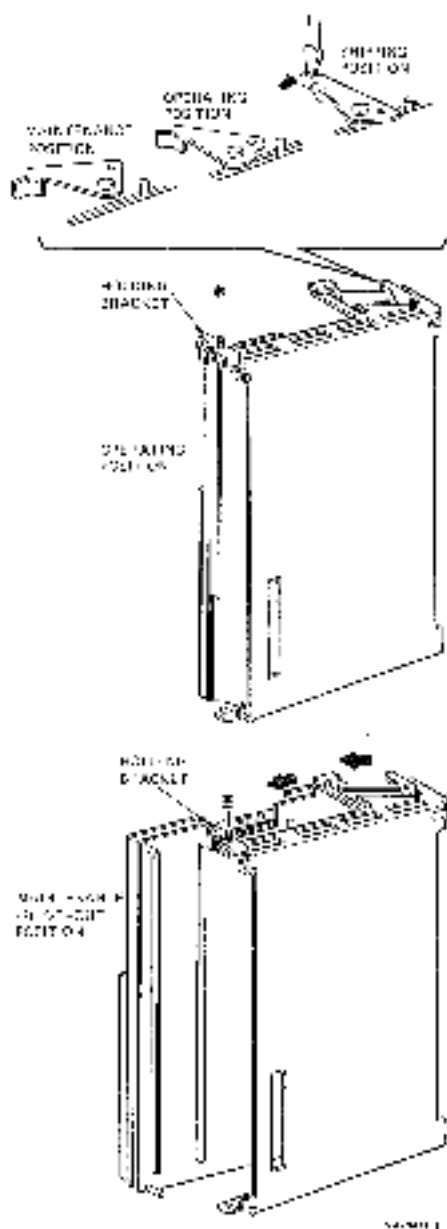

Figure 4-23 Logic Cages for Write Driver, Read Amplifier, and Servo Control Modules
To service this module, you must separate it from the logic cage and move it to the maintenance position (Figure 4-23). Refer to Paragraph 4.8.1 to check on the shipping and safety brackets you have to remove when working with this cage.
7. While sliding the modules to the right into the operating position as in Figure 4-23, replace connectors W7P5 and W7P4 on top of the read amplifier module.
Remove the servo control, read amplifier, and write driver modules together. First move all modules to the maintenance position as in Figure 4-23. Remove all the modules from the logic cage (Figure 4-26). Then separate the servo control module from the other modules.
5. Release (pull toward yourself) the retaining latch on the top of the logic cage to the maintenance position. While removing connectors W1P4 and W1P5, slide the servo control and read amplifier modules to the maintenance position (Figure 4-23).
4. Place the modules in the cabinet in the maintenance position (Figure 4-23). Replace the retaining bar.